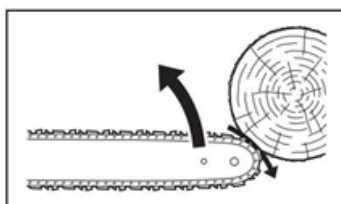

Fig 1
- In some cases, tip contact can cause an ultra-rapid reverse reaction, pushing the bar up and back toward the operator (this is called rotational kickback). Tightening the chain along the top of the bar can push the bar rapidly back toward the operator (this is called linear kickback) (Fig. 1).